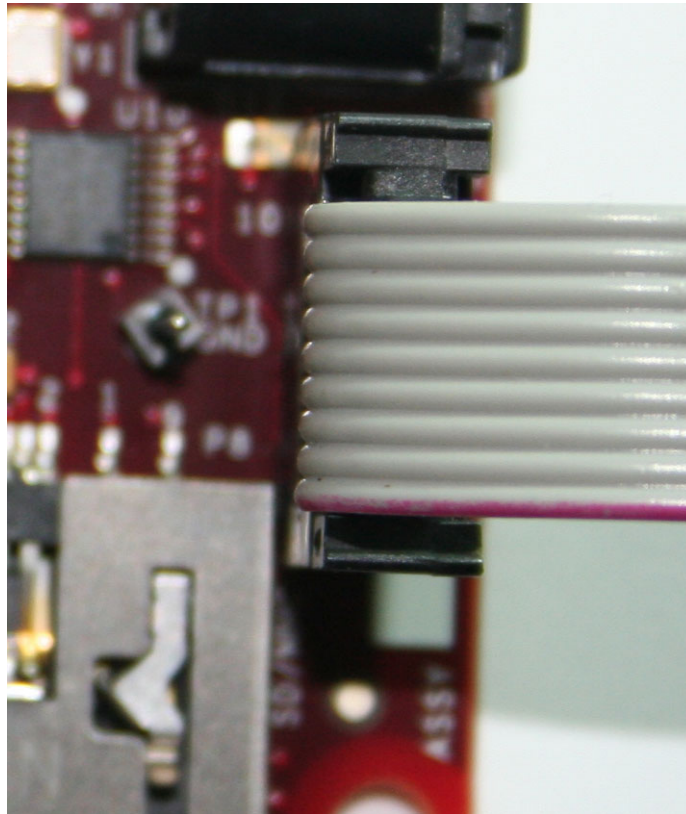

Figure 80. BeagleBoard Serial Cable Orientation
2. Make sure that the cable is plugged in correctly. The red stripe should be at the bottom next to pin1 of P9. Some cables may have the flat cable extending away from the BeagleBoard and others may be extending toward the middle of the BeagleBoard. **Figure 80** shows the proper orientation of the IDC serial cable.